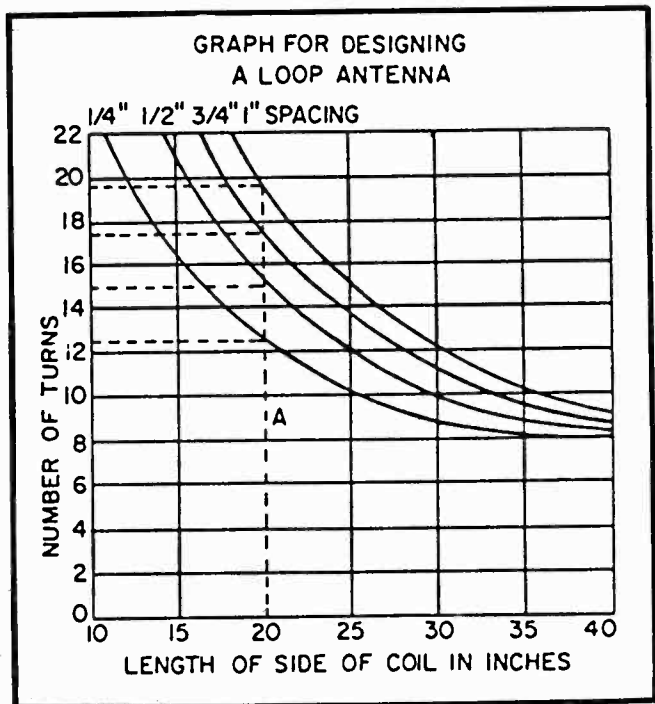

Figure 4. Loop antenna dimensions, for AM band.
Figure 3. This shows details of a build-it-yourself loop antenna. Use the dimensions shown in the table in Figure 4 to get the spacing and number of turns you need for the broadcast band (AM).